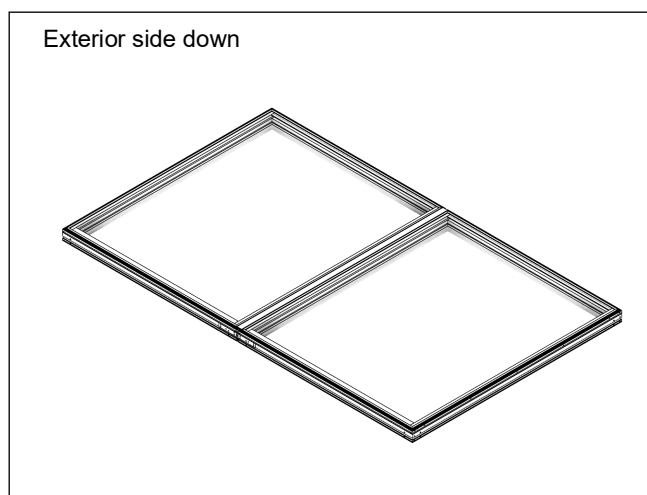

Figure 2 Multi-Unit inspection, exterior side down
1. Set up assembly area (clean flat area) setting the assemblies exterior side down. Inspect assemblies for any damage. See Figure 2.